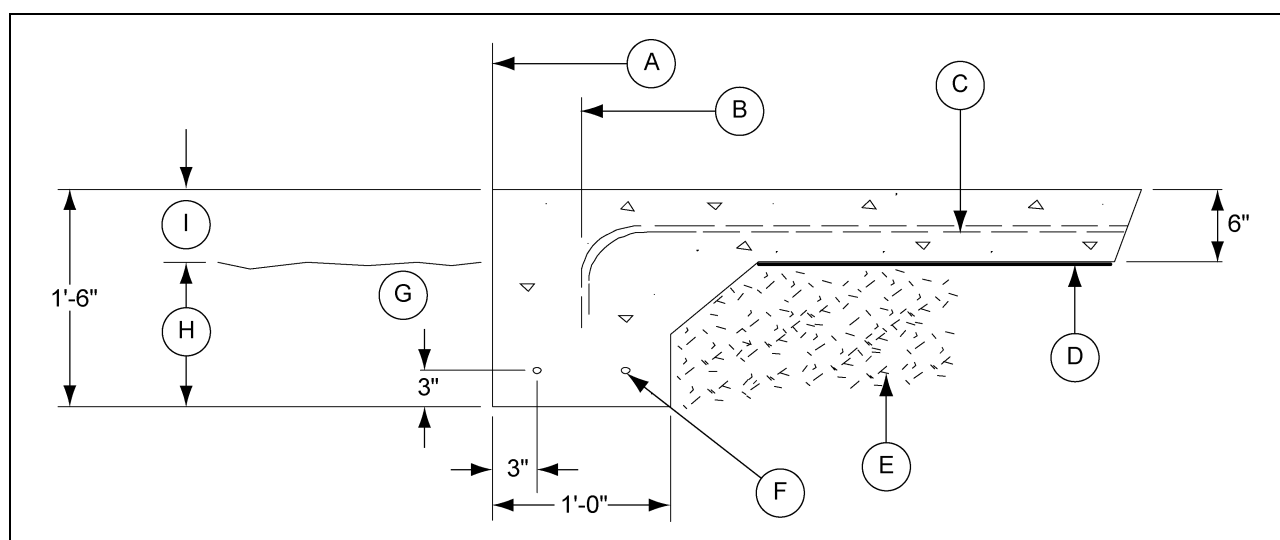

Figure 4AB Floating Monolithic Foundations
6. All material used for backfill inside the ring wall should be clean, well graded, crushed rock or a sand and gravel mixture. Backfill should be placed in 6" lifts, 95% compaction. (See Figure 4AB.)